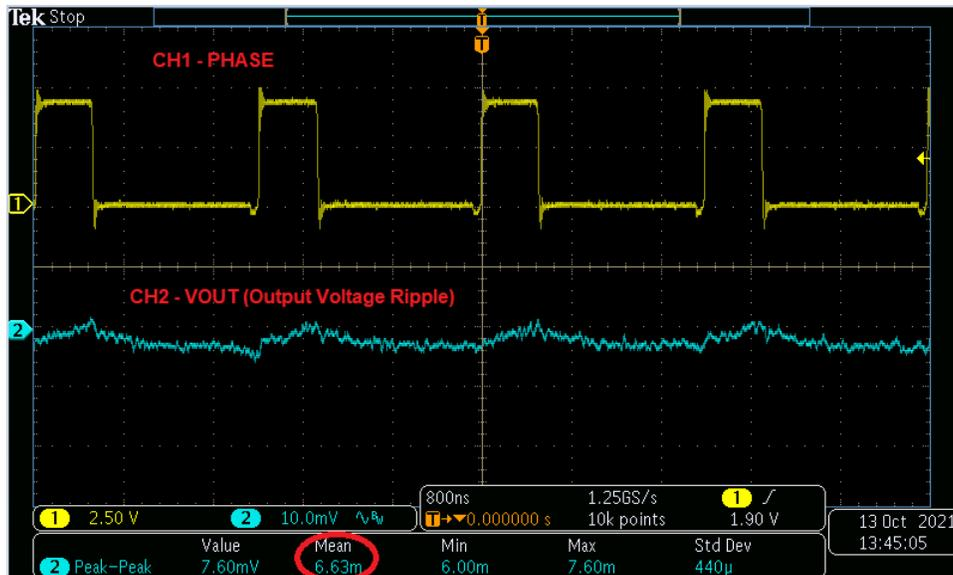

Figure 4-2. Output Voltage Ripple VIN = 5V, VOUT = 1V, IOU = 18A
Display CH1 (PH) and CH2 (VOUT) [AC coupled, BW = 20 MHz] on oscilloscope to monitor the switching phase node and the output voltage ripple as shown in Figure 4-2.